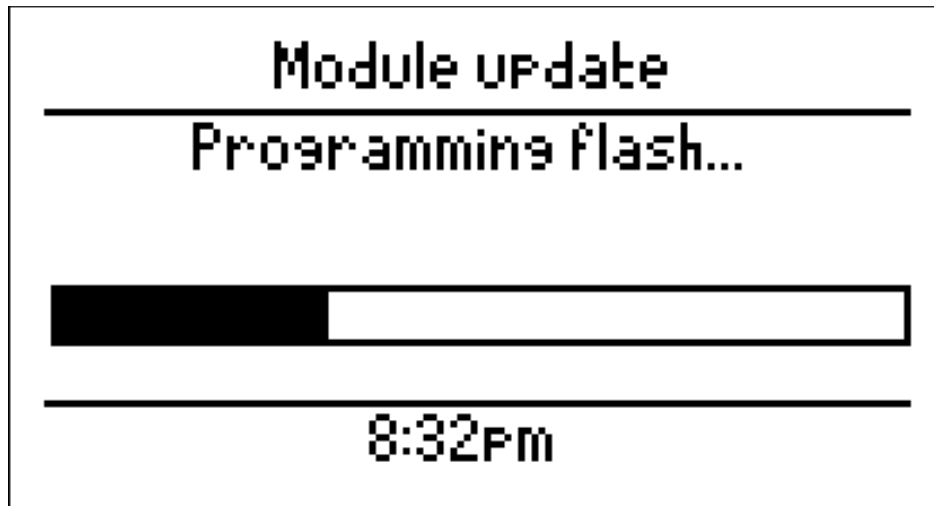

Figure 25 Programming module
4. Wait for the software to be updated into the module. The progress of the update is displayed (see Figure 25).